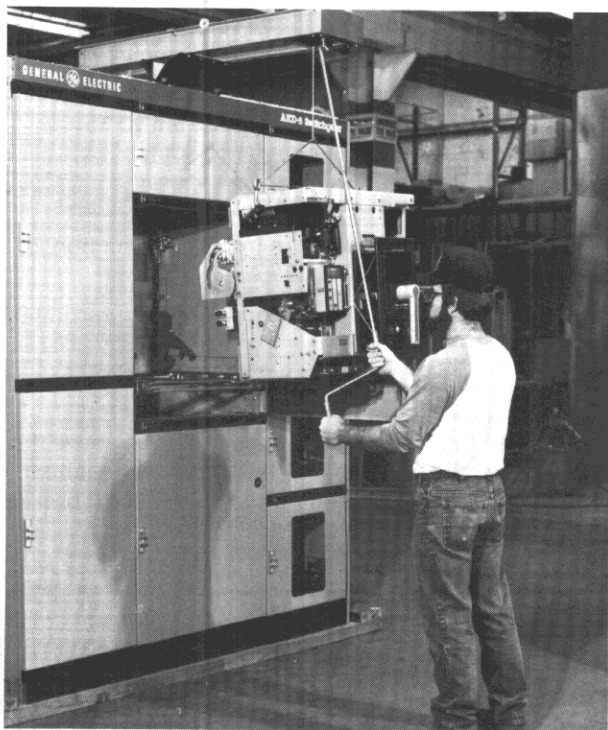

Fig. 5-6. Hoist breaker about one-half inch above rails
3. Using the switchgear hoist or a suitable lifting mechanism (and spreader rig for AKR-30/50 and AKRU-30/50 breakers), raise the breaker about one-half inch above the elevation of the rails. See Fig. 5-6. Insert the spreader bar hooks in the *forward* slots for non-fused AKR-30/50 breakers and in the *rear* slots for fused AKRU-30/50 models.